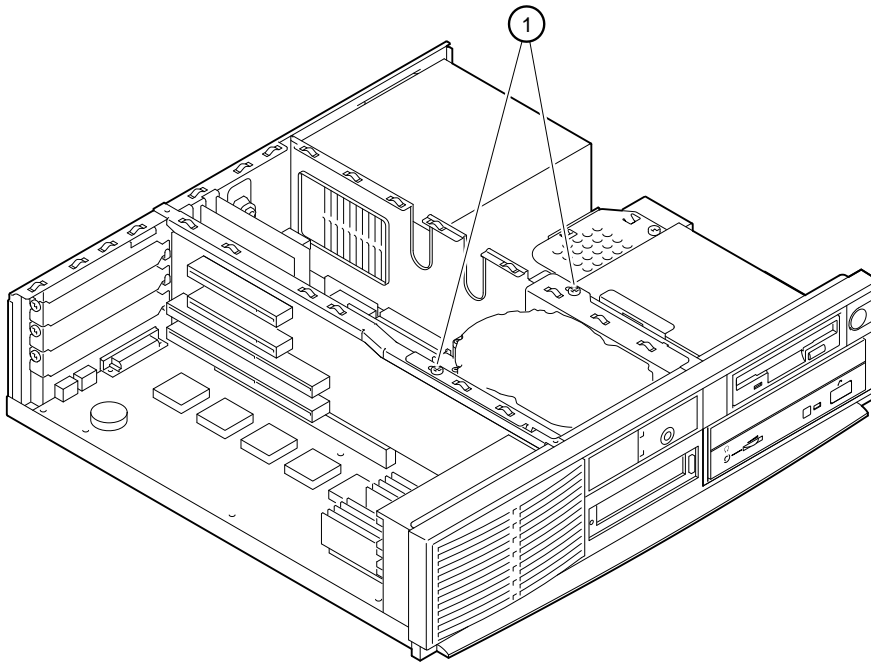

Figure 3-11. Loosening Drive Bracket Screws
2. Loosen the two screws ① holding the drive bracket, lift the rear of the bracket, and then slide the bracket to the rear slightly and lift it out of the system unit, as Figures 3-11 and 3-12 show. Remove cables from the drive *after* the assembly has been lifted out of the system unit.